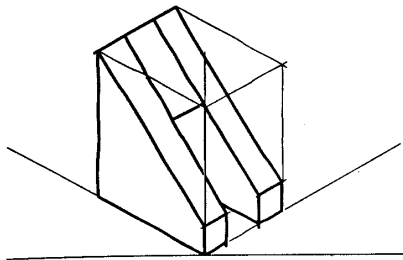

FIGURE 2.56 ■ Step 6, darken the outline.
Step 6. To finish the sketch, darken all the object lines (outlines), as in Figure 2.56. For clarity, do not show any hidden lines.